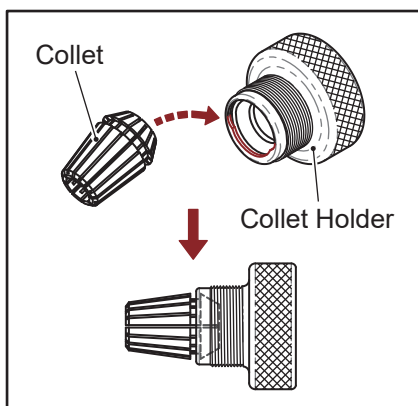

Fig. 7-1
2. Put the collet into collet holder by 45° angle. (Fig. 7-1)